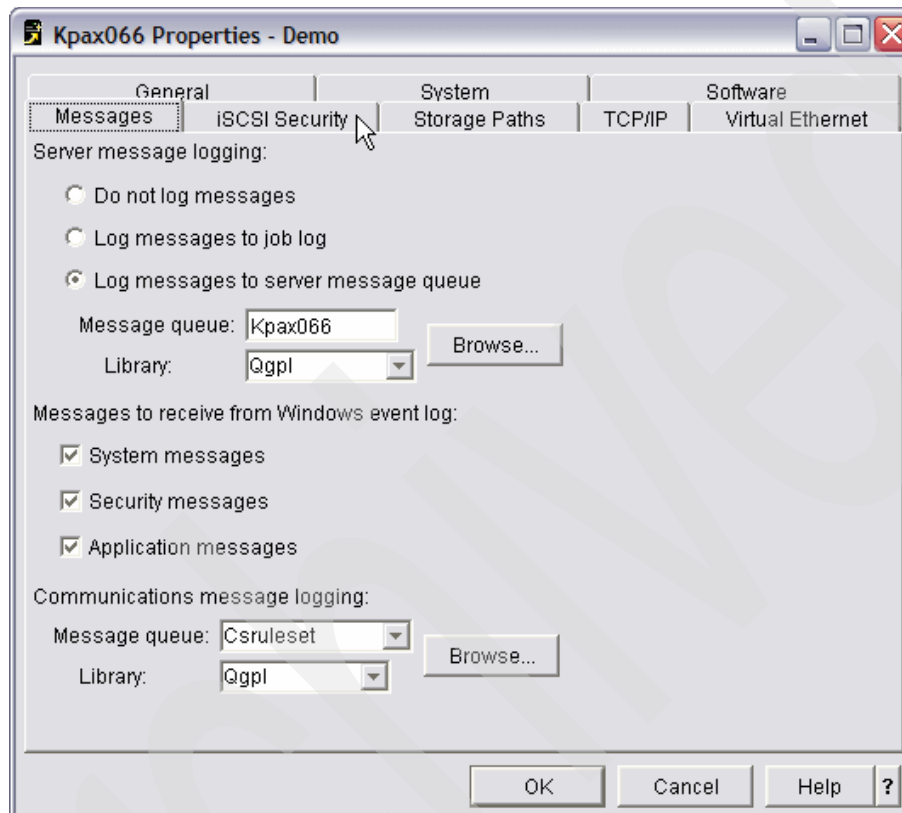

Figure 6-66 Messages tab NWSD properties
► **Messages page information (Figure 6-66 on page 214):**